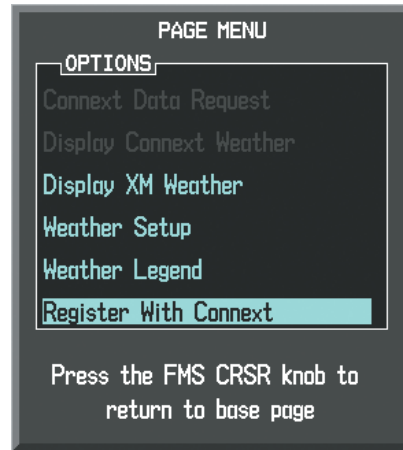

Figure 6-55 Select 'Register With Connex'
- 3) If the system displays the 'CONNEXT REGISTRATION' Window, proceed to step 7. Otherwise, press the **MENU** Key. The Page Menu window is now displayed as seen in Figure 6-55.